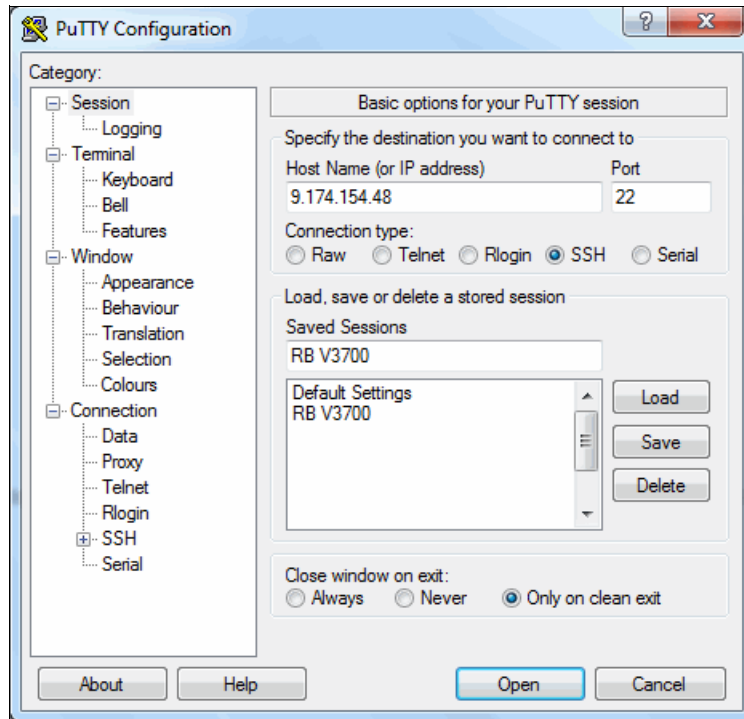

Figure A-12 Enter session information
9. In the right side pane, enter the host name or system IP address of the IBM Storwize V3700 clustered system in the Host Name field. Enter a session name in the Saved Sessions field, as shown in Figure A-12.